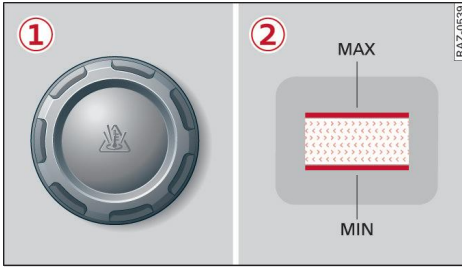

Fig. 160 Engine compartment – coolant expansion tank (example): ① Cap, ② Marks
⇒ *page 244, Fig. 156* using the external markings ② ⇒ *Fig. 160* as a guide. When the engine is cold, the coolant level should be between the marks ②. When the engine is warm, it may be slightly above the top mark.
- ▶ Carefully unscrew the cap ① ⇒ *Fig. 160* anti-clockwise ⇒ ⚠.
⇒ *page 248* up to the top mark ② ⇒ *Fig. 160*.